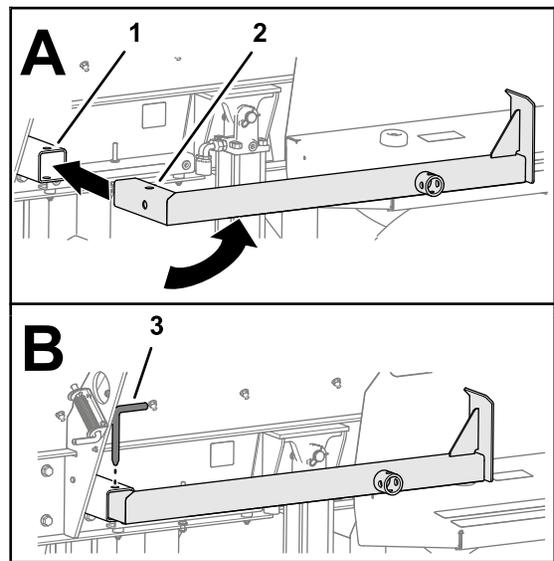

**Figure 25**
4. Remove the jack-leg pin from the rear-jack leg, and remove the jack leg from the leg tube (Figure 25).